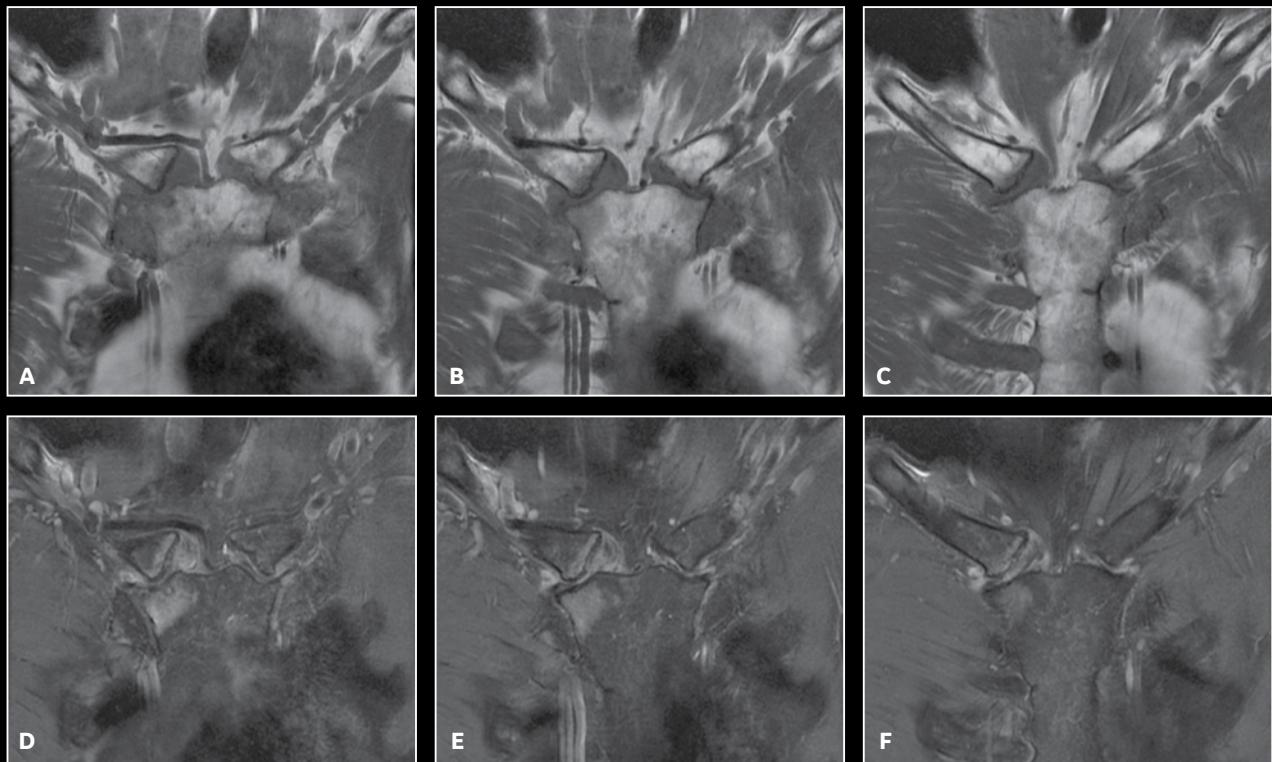

Figure 2. Sternoclavicular joint imaging with AIR™ AA Coil. (A-C) T1 coronal and (D-F) T2 coronal FatSat.
Figure 2. AIR™ AA Coil and PA for abdominal imaging deliver better than expected coverage, signal homogeneity, high spatial resolution and homogeneous fat suppression. A thickening of the terminal ileum (red arrows) is consistent with Crohn's disease. (A) Axial T2 SSFSE; (B) Axial DWI b1000; (C) Coronal T2 SSFSE; (D) Axial T2 SSFSE FatSat; and (E) Axial T1 LAVA ASPIR.